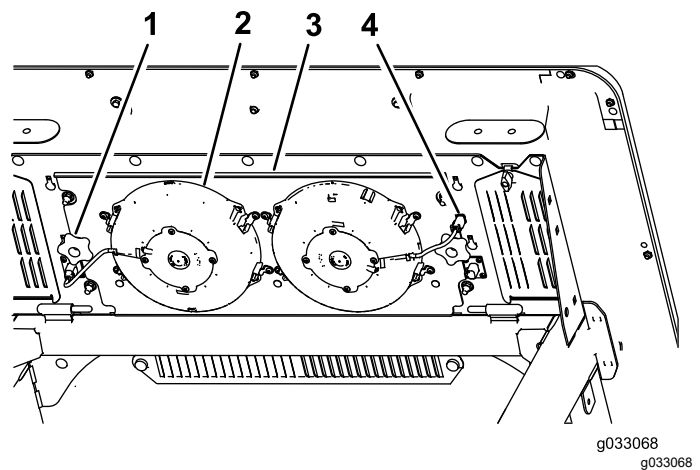

Figure 94
3. Disconnect the plug and cord for the fans from the outlet (Figure 94).
4. Remove the 2 knobs that secure the fan-panel assembly and fans to the underside of the cab top (Figure 94) and remove the assembly.